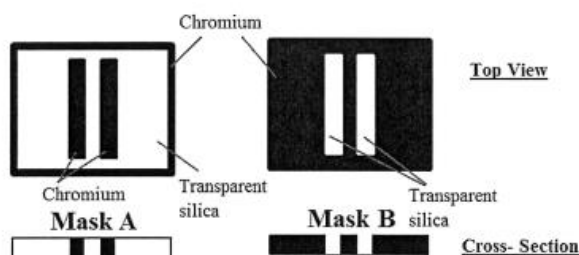

Figure 1a: Masks for patterning
- (b) You are required to pattern 2 parallel metallic lines on a Si substrate. Two masks, A and B are available for use as shown in Figure 1a. Mask A has 2 parallel chromium lines on transparent silica. Mask B is the inverse of Mask A. (Ignore the effect of chromium frame during patterning).